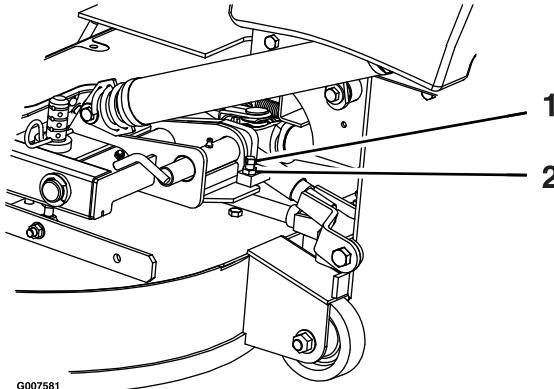

Figure 73
2. Loosen the jam nut and turn the stop screw clockwise until the locking pin is tight and cannot be rotated by hand (Figure 73).